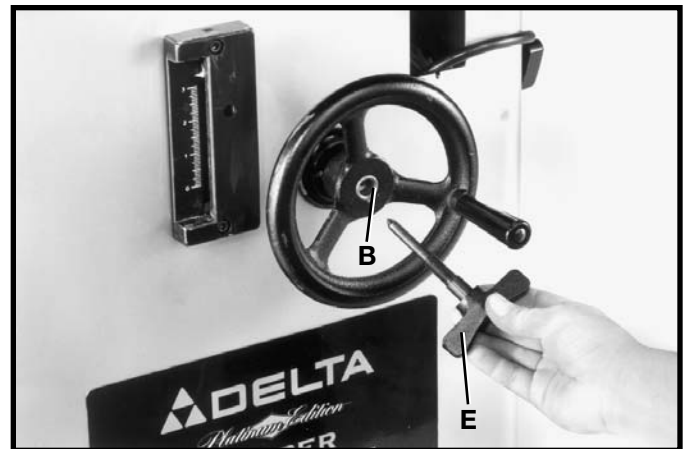

Fig. 6
3. Thread lock knob (E) Fig. 6, into the spindle shaft (B).